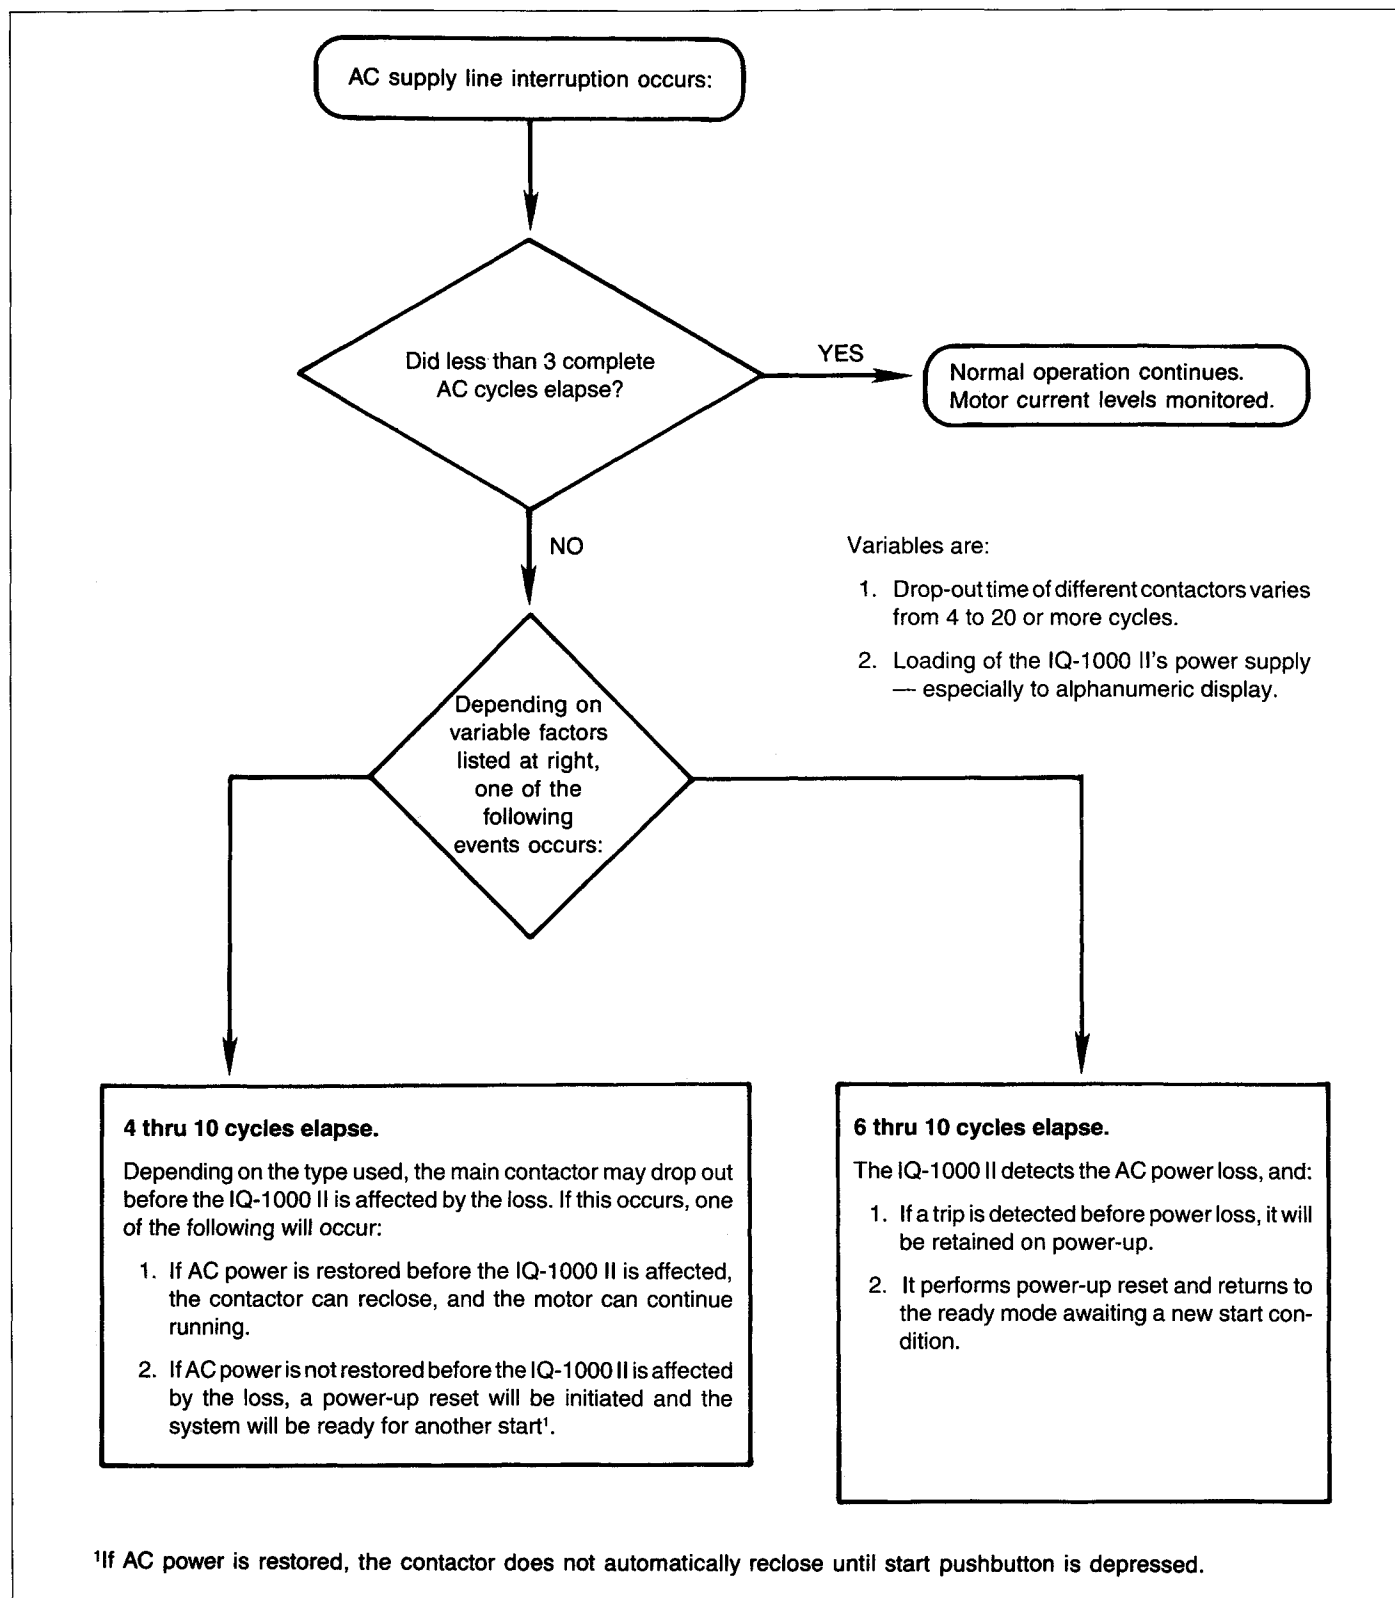

Fig. 7.7 AC Interrupt Events Flow Chart
7.3 AC LINE INTERRUPTIONS — The IQ-1000 II operates in a controlled and predictable manner during incoming AC line interruptions. The events flow chart shown in Figure 7.7 lists the predictable events which occur during various AC line interrupts for a typical motor. The chart assumes a complete, or nearly complete, loss of AC line power.